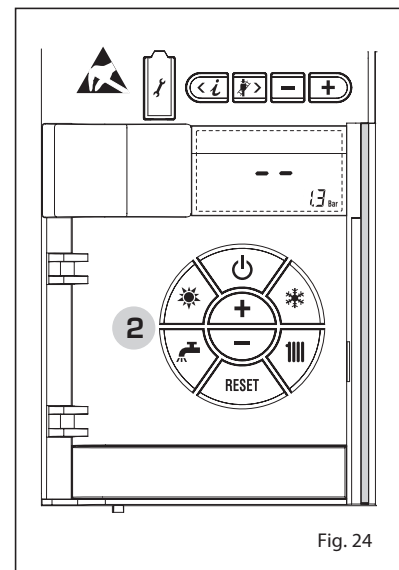

Fig. 24
### BOILER IGNITION (fig. 24)
#### TO SWITCH OFF THE BOILER (fig. 24)
In the case of a short absence, press the key ( ) of the controls (pos. 2). The display will be as shown in the fig. 24. In this way, leaving the electricity and the fuel supply connected, the boiler is protected from frost and from the pump becoming blocked. If the boiler is not used for a prolonged period, it is advisable to disconnect the electricity supply, by switching off the main switch of the system, and to close the gas tap and, if low temperatures are expected, to completely empty the hydraulic circuits to avoid pipes being broken by the formation of ice in the pipes.